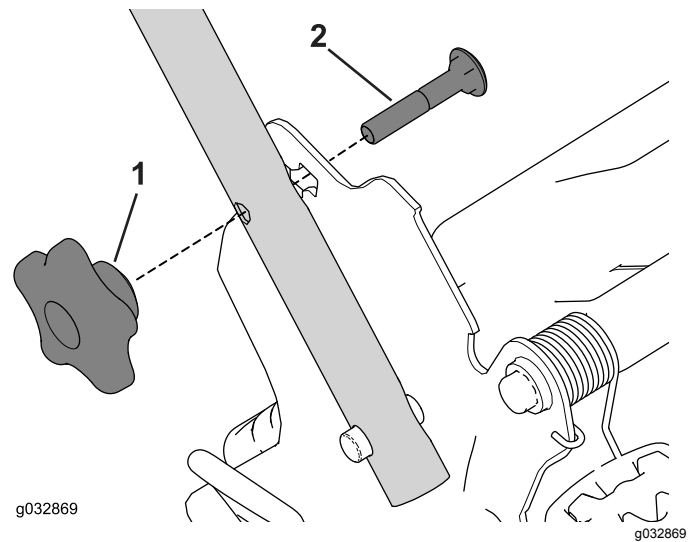

Figure 23
2. Remove and save the 2 handle knobs and 2 carriage bolts from the handle brackets (Figure 23).